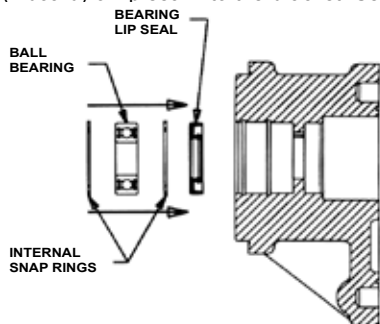

FIGURE 9
1. If installing new lip seals, press the product side (inboard) of lip seal into the bracket. See Figure 9. Press the lip seal protecting the ball bearing (outboard) into the bracket with lip facing inward.